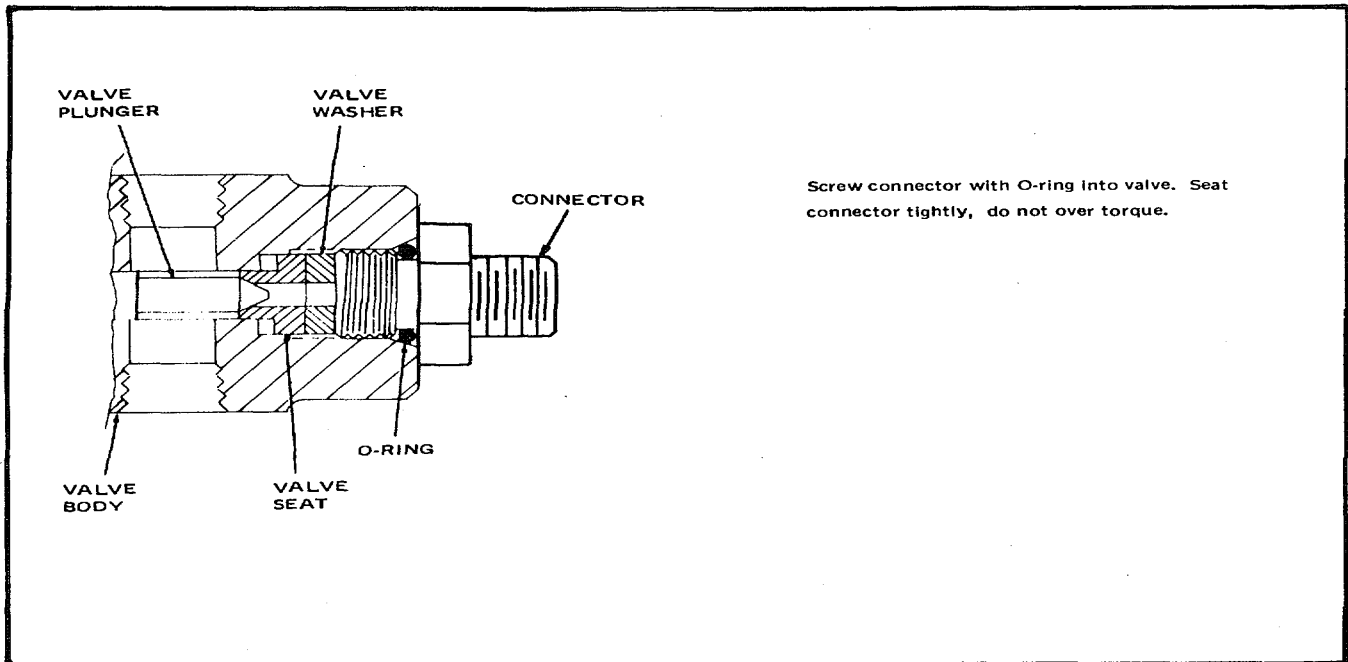

Figure 6-4. Seating Priority Valve Connector.
- (1) Assemble valve seat (11) in valve body (12) and tap into position to full depth of bore. Install washer (10) in body (12).
- (2) Install backup ring (7) and o-ring (8) in plunger (6) groove. Assemble plunger (6) in body (12) with a twisting motion, assemble spring buttons (4) and spring (5).
- (3) Screw housing (3) onto body (12) until housing bottoms. Install set screw (2) and jam nut (1). See Figure 6-4 and install elbow (9) and plug (13) in body (12).